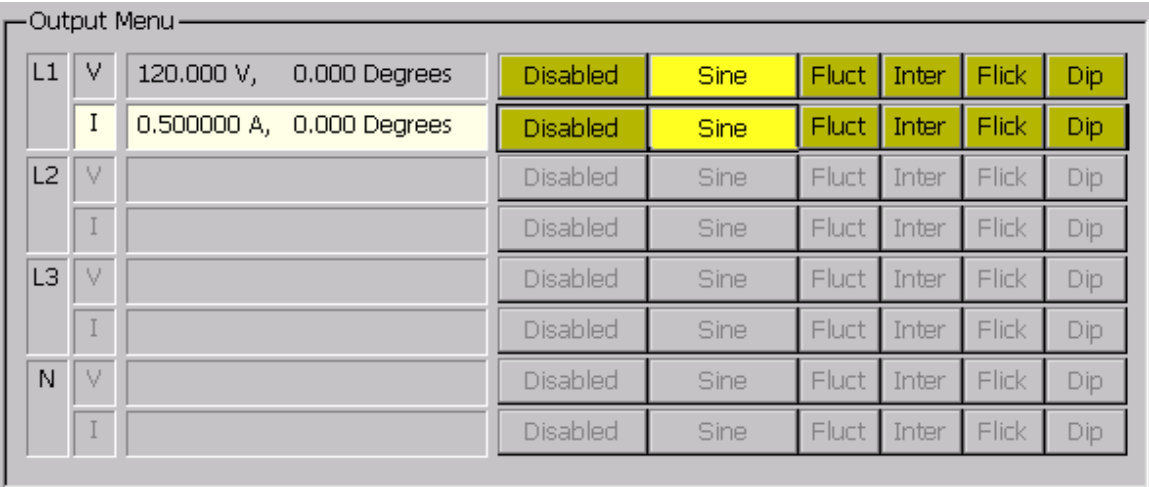

Figure 3-4. The Output Menu (L1 Current Selected)
2. Use  to change the Output Menu control focus to L1 current (L1 I). Note the white background shifts to the active channel. Leave the focus on L1 current. See Figure 3-4.